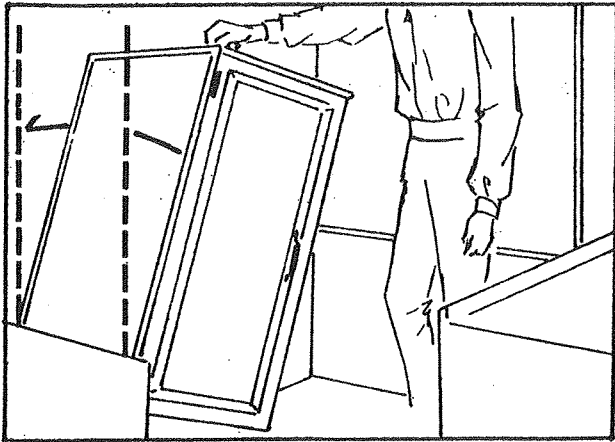

FIGURE 21
29. Grasp the handle located on the top of the wardrobe and raise the assembly until it is vertical. See Figure 21.